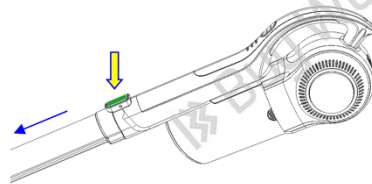

Fig. 2
- If you want to remove the tube from the main body, first press the tube release button by one hand and hold and remove the tube with your other hand (see fig. 2).